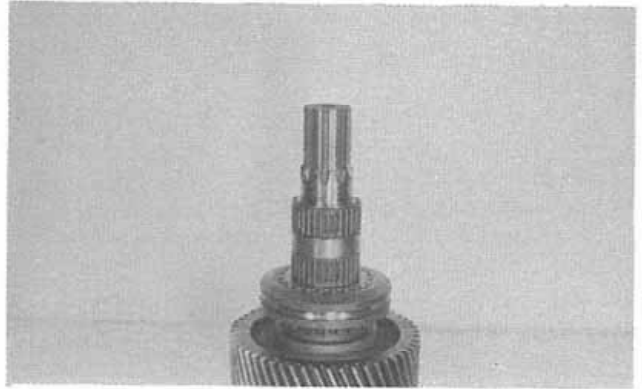

Figure 15:
8. From the front of the input shaft, install the sliding clutch (Fig. 14); needle bearings with spacers between them (Fig. 15), front input gear (Fig. 16) and the thrust washer (Fig. 17). Install the front bearing cone in the same manner as the rear (step 7), however, do not damage the splines which fit the drive yoke. Be sure that the cage of the rear bearing cone is protected.